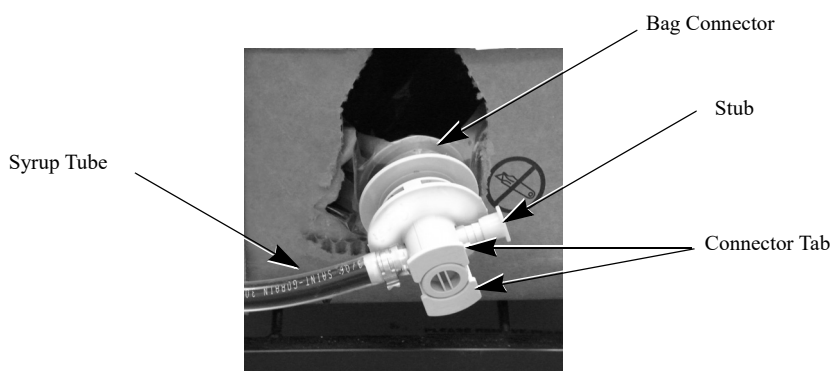

Figure 8.
Refer to Table 7 and Figure 8 when replacing a Type 2 BIB container.
6.	Re-install the QCD connector onto the new BIB connector by slipping it onto the connector and pushing the syrup hose and stub down toward the box. IMPORTANT: Button should be flush, as shown in Figure 8.